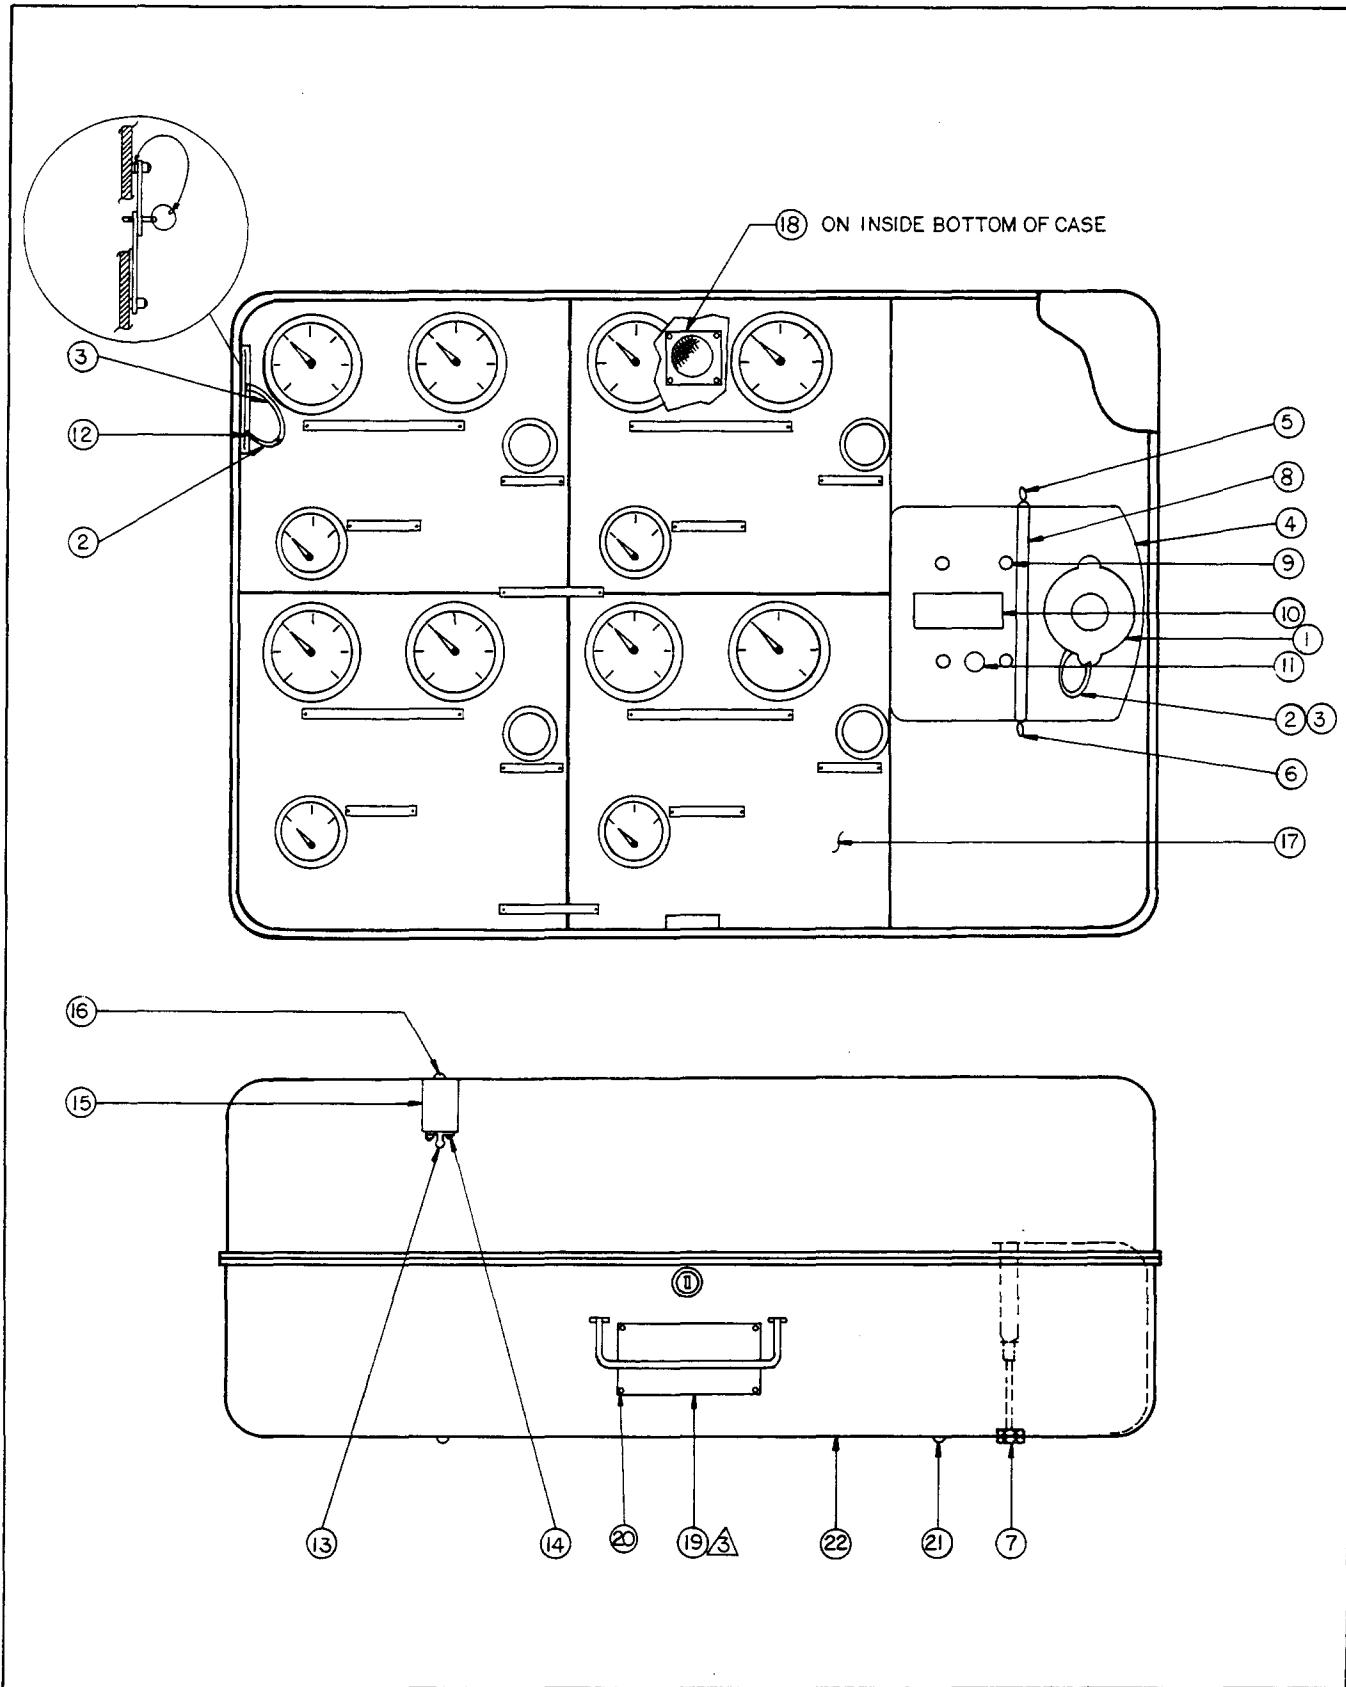
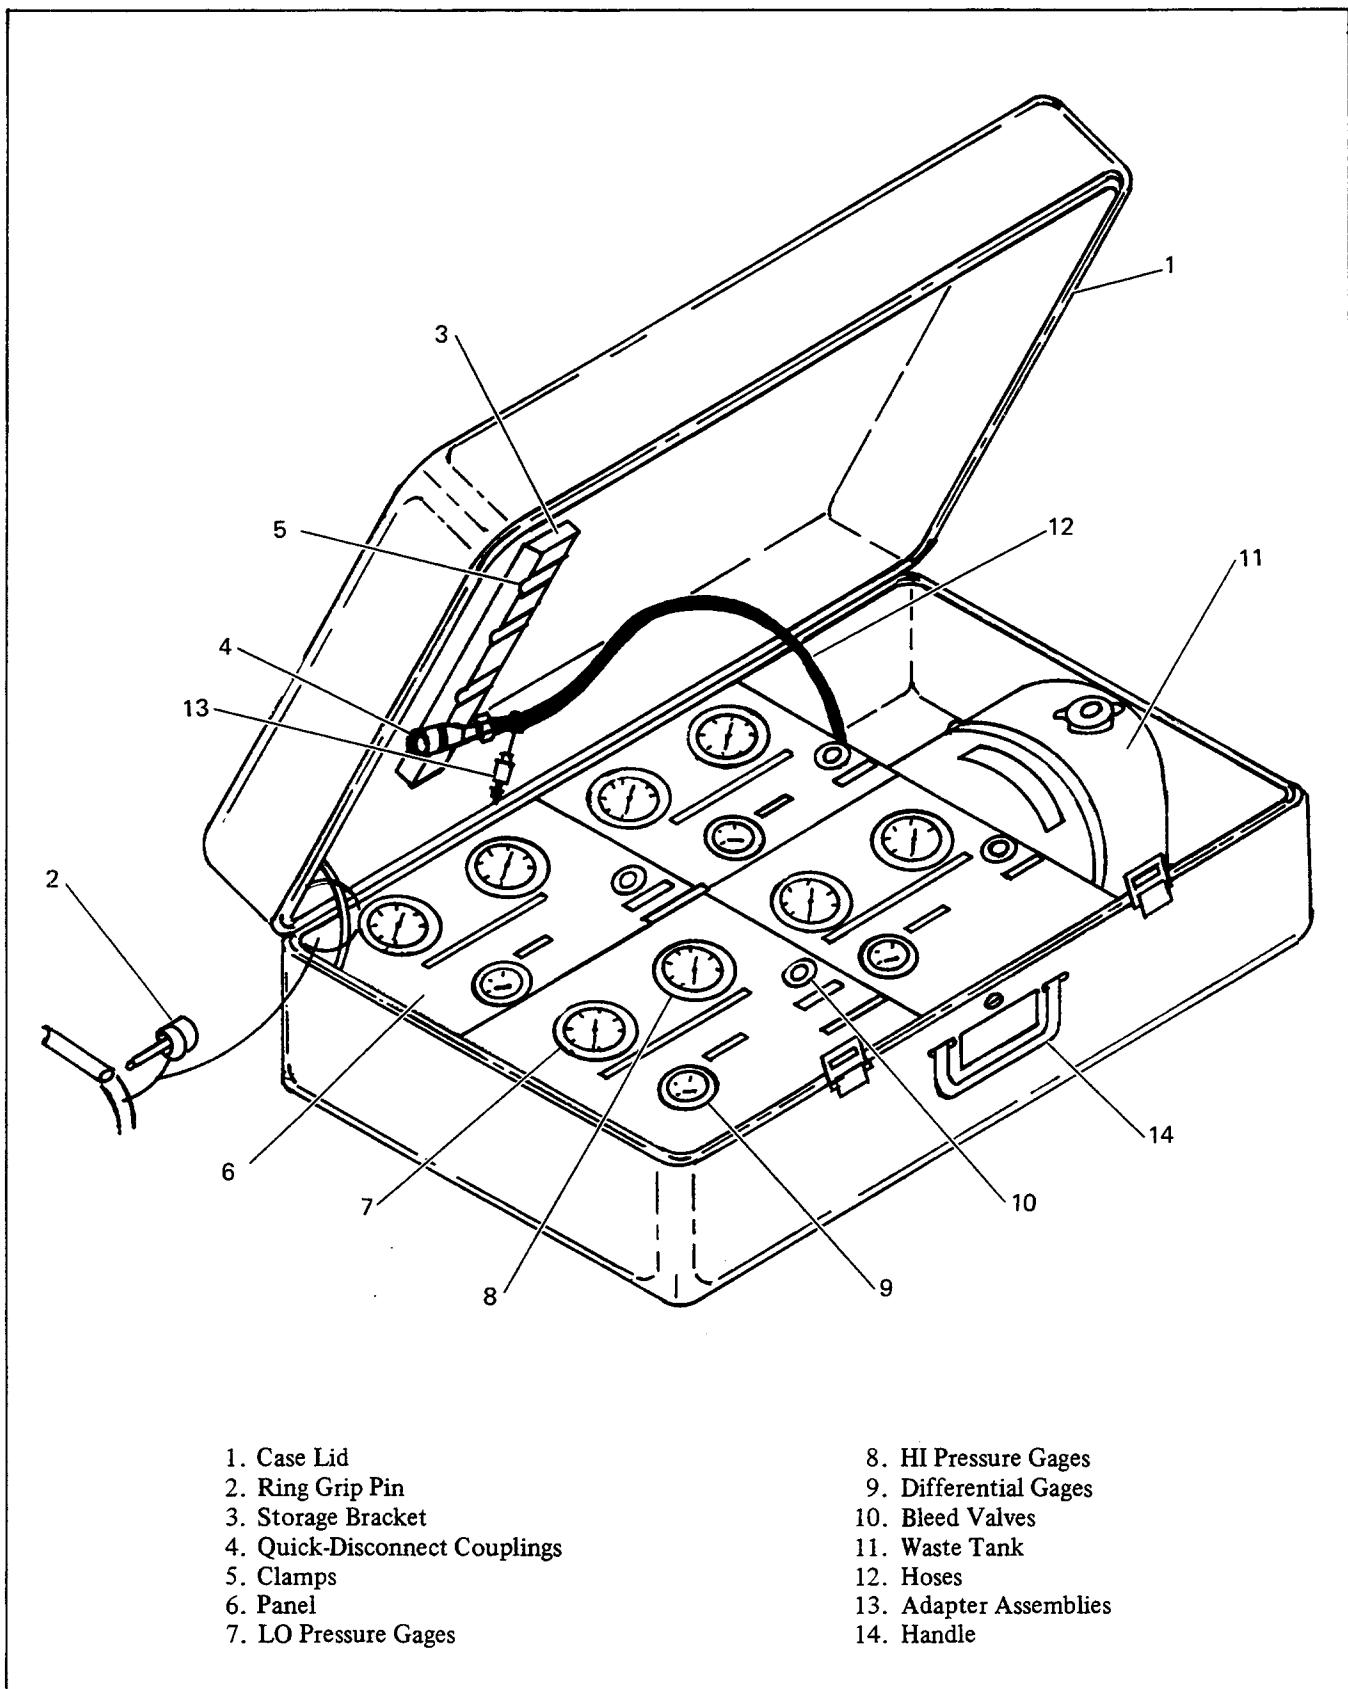

Figure 5-3. Brake Pressure Test Set
Figure 5-5. Brake Pressure Test Set
- (2) When hydraulic fluid flowing through the translucent drain tubing (9, Figure 5-2) into the waste tank (4, Figure 5-3) contains no bubbles, close valve (14, Figure 5-2).
- (3) Repeat (1) and (2) with the next circuit of the test set until all required circuits have been charged.
- (4) Assure all bleed valves are closed.
- (5) Test set is ready to perform aircraft required testing.
5-7. DISASSEMBLY. (Refer to Figure 5-3.) Disassemble the test set to allow access to hydraulic components, using the following steps.
- a. Remove waste tank (4, Figure 5-3) by unhooking strap (8) and pulling drain hoses (12, Figure 5-5) from tank grommets (9, Figure 5-3).
a. Install panel assembly (17, Figure 5-3). Secure with five screws (54, Figure 5-2).
b. Install waste tank (4, Figure 5-3) by inserting drain hoses (12, Figure 5-5) through tank grommets (9, Figure 5-3). Secure with strap (8).